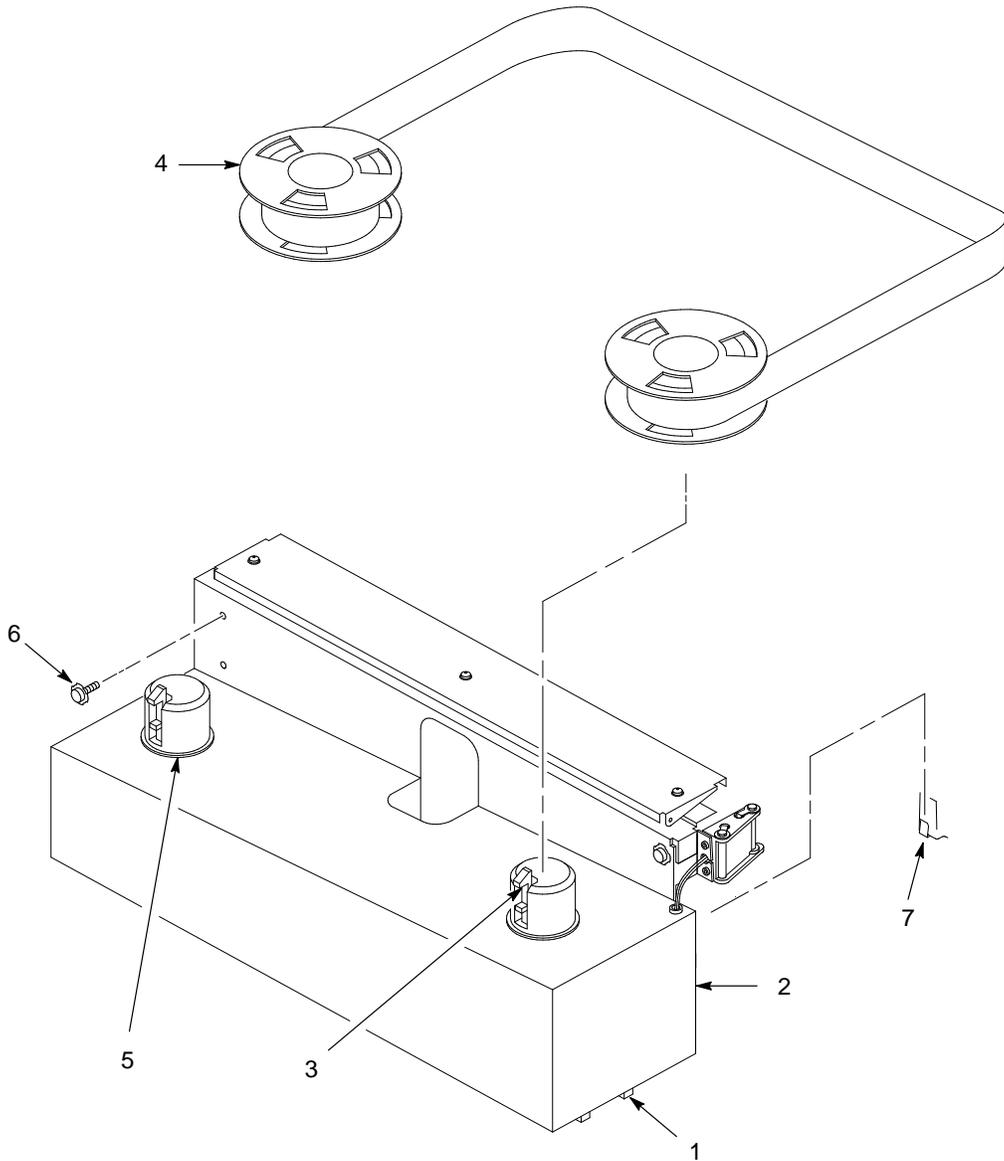

Figure 5-1. Ribbon Deck Removal
3. Disconnect four connectors (1) from the bottom of the ribbon deck assembly (2). (See Figure 5-1.)
4. Squeeze the lock tabs (3) and remove the ribbon spools (4) from the ribbon hubs (5).
5. Remove three hex head screws (6).
6. Raise the ribbon deck assembly slightly and lift it off the retaining clips (7). Set the ribbon deck aside.